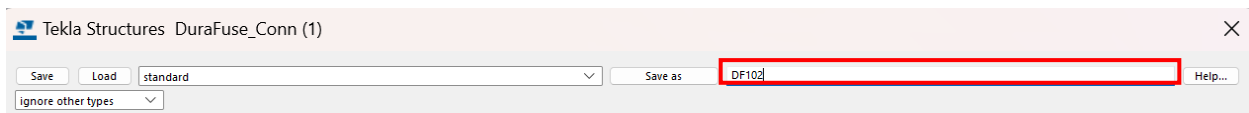

Figure 7-14. Loading Saved Connections
4. Enter the appropriate connection ID in the **input box** next to the Save as button (see Figure 7-14).